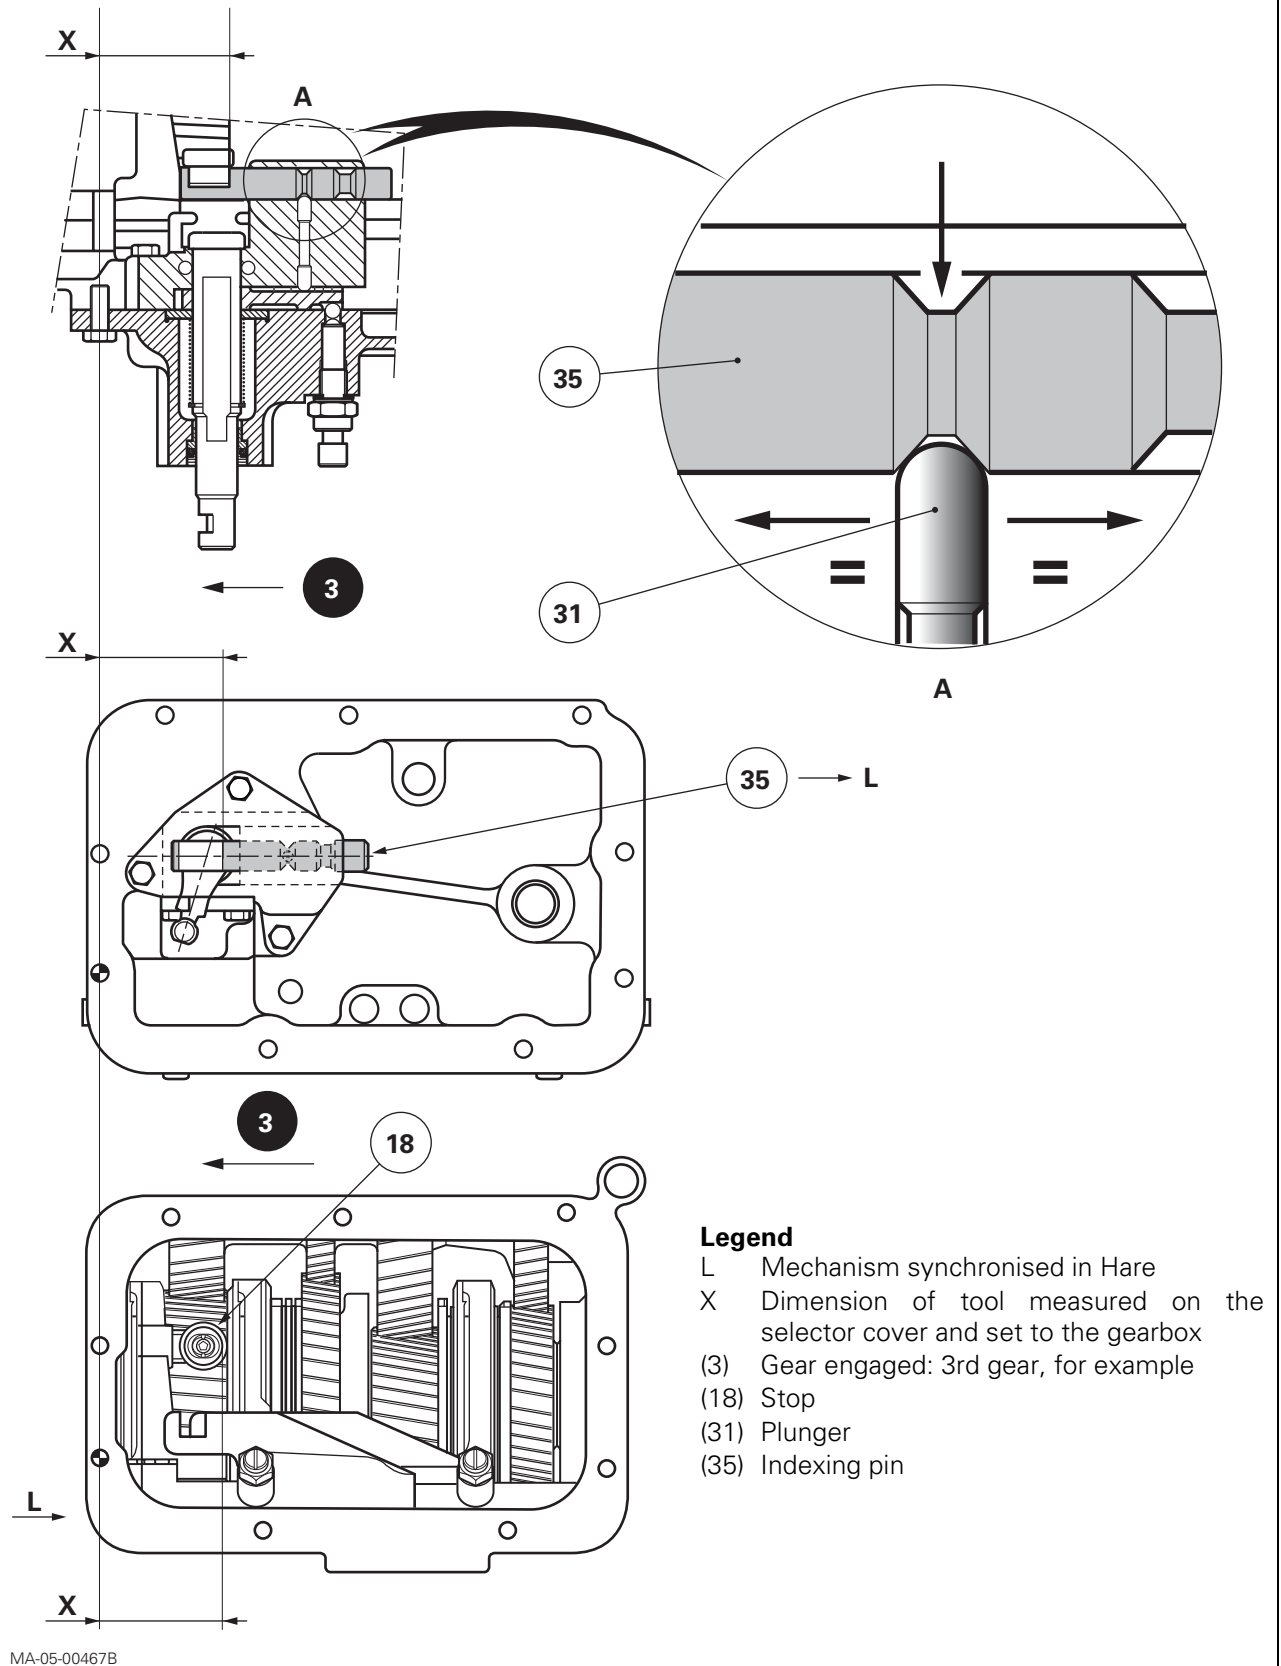

Fig. 25
On the cover (Fig. 25)
- 81. It is **essential** to equally share the clearance between the indexing pin and the plunger (31) (Fig. 25, detail A).
- 82. Using the tool, measure dimension X according to Fig. 23 and Fig. 25.
On the gearbox (Fig. 25)
- 85. Adjust the stop (18) (Fig. 24 - Fig. 25) by placing it in contact with the tool.
- 86. Lightly smear the thread of the screw (17) with Loctite 242 or equivalent. Tighten to a torque of 40 - 50 Nm.